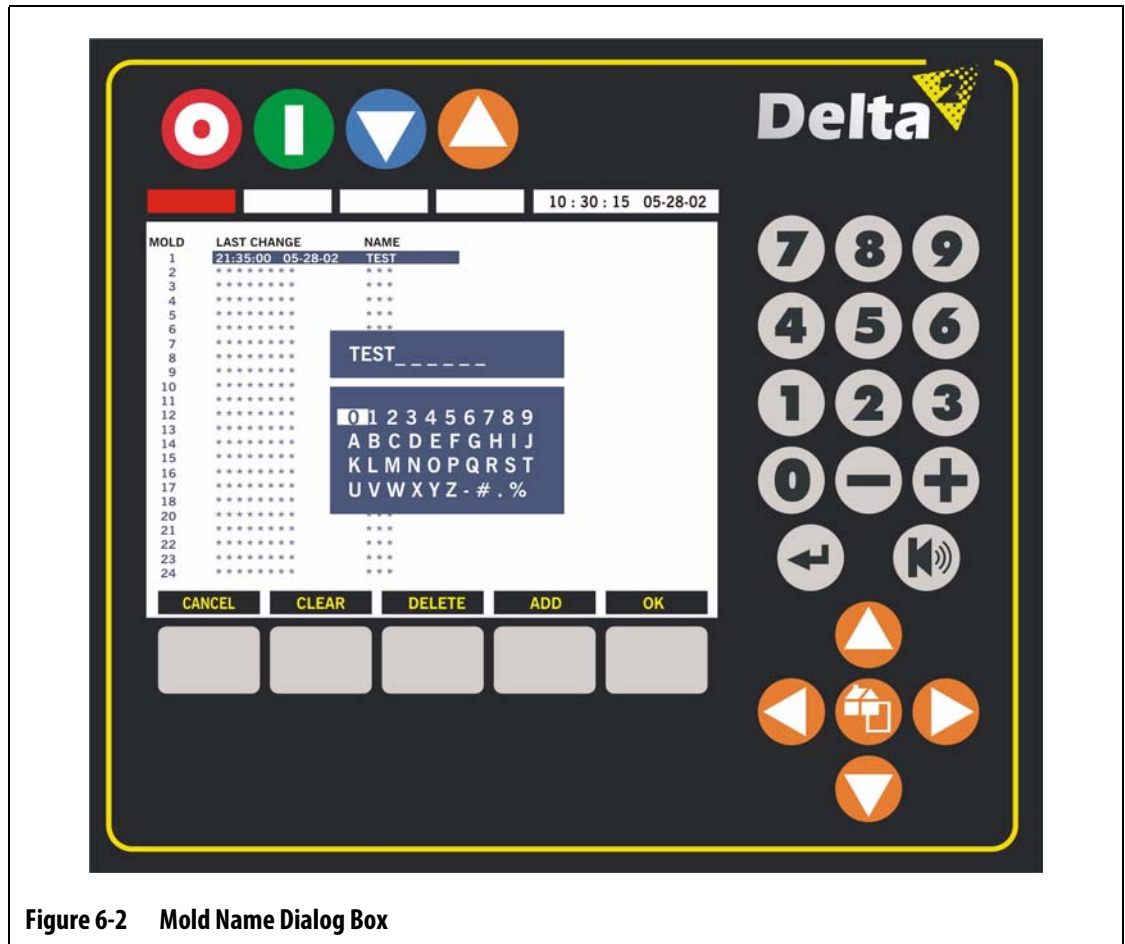

Figure 6-2 Mold Name Dialog Box
2. Press NAME and the Mold Name Dialog box appear. Refer to Figure 6-2.